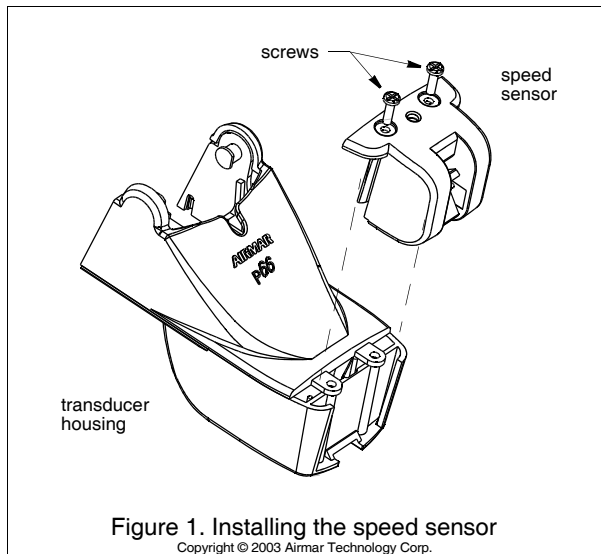

Figure 1. Installing the speed sensor
1. Remove the two screws that hold the blank onto the transducer housing (Figure 1).
6. Screw the speed sensor to the transducer housing (Figure 1).